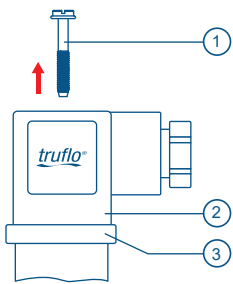

Fig.1
1. Loosen the central screw (part 1) and detach the junction box (part 2) from the connector (part 3), as shown in Fig. 1.